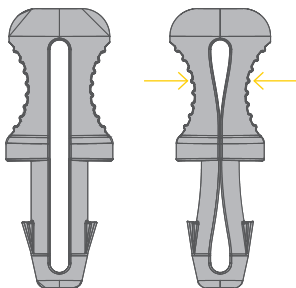

Fig. 1
- In the event that some water drops in the document holder while in vertical position, it must be emptied by removing the 2 small caps (2) located at the bottom.
- The safety pin (4) must be placed on the lateral side of the document holder in its resting position.
- To remove the safety pin (4) press on the edges (Fig. 1) and pull it out.